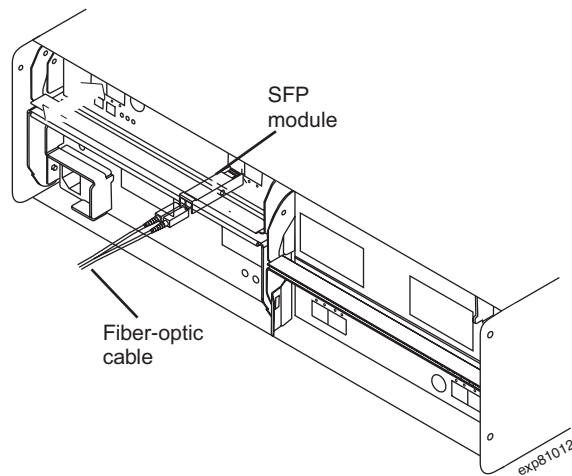

Figure 27. Installing an SFP module and connecting an LC-LC cable to the EXP395
3. Install an SFP module in the SFP port on the back of the EXP395; then, connect the other end of the LC-LC cable into the SFP module, as shown in Figure 27.